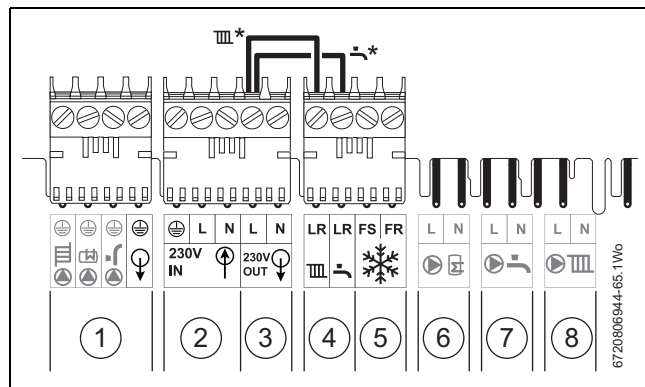

Fig. 41 Mains voltage connections
- ▶ When connecting Worcester plug-in or EMS intelligent controls, the links (→ items 3 & 4 in figure 41) must be left in the connection points.